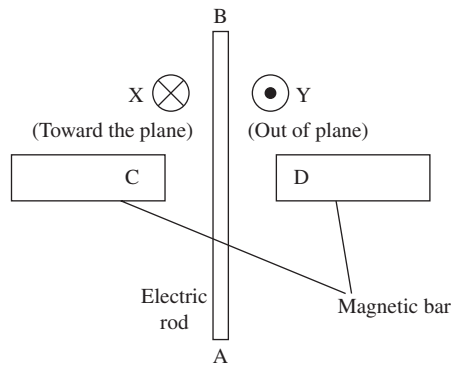

FIGURE P13.2 Diagrammatic representation for Problem 13.2.
- 13.2** (B) Given the specific properties in each case below, determine the result from the setup in Figure P13.2.